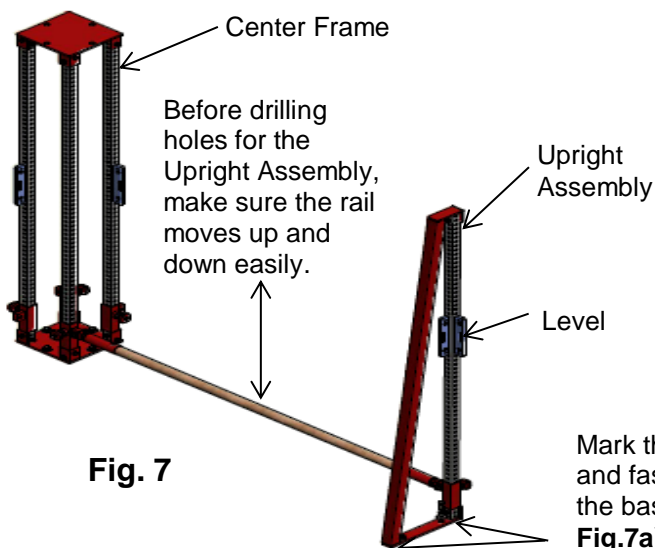

Fig. 7
2. Set the **Rail Carrier** to the lowest position on the **Adjusting Tubes**. Make sure the **Spin Snap Lock** engages into the hole on the **Adjusting Tubes** in the same hole positions, but do not tighten the **Snap Lock** at this point (see **Fig. 7**).
1. Make sure the **Upright Base Plate** is sitting flat on the concrete. Locate and mark the location of the **Upright Base Assembly** concrete anchors, using the **Upright Base Assembly** as a guide (see **Fig. 7**).
2. Drill and install **(2)** concrete anchors using the **Upright Assembly** as a guide (see **Fig. 7 & 7a**).
4. Check installed **Upright Assembly** to make sure it is sitting flat on the concrete floor. Once the bolts are properly tightened, make sure the **Upright Assembly** is level (see **Fig. 7**).